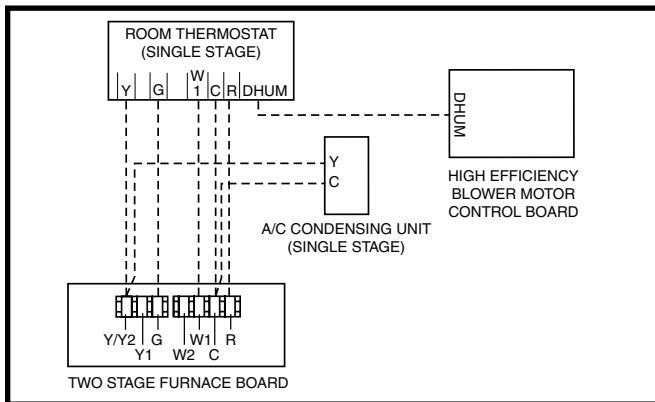
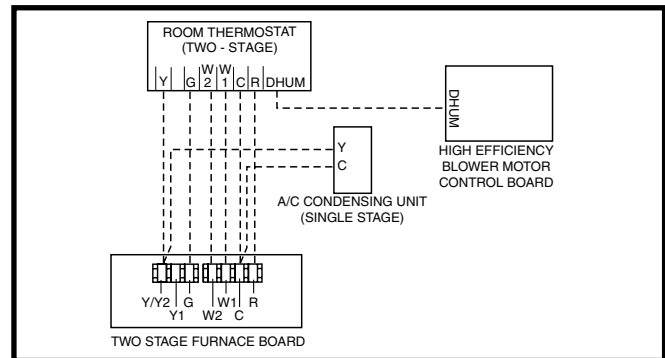
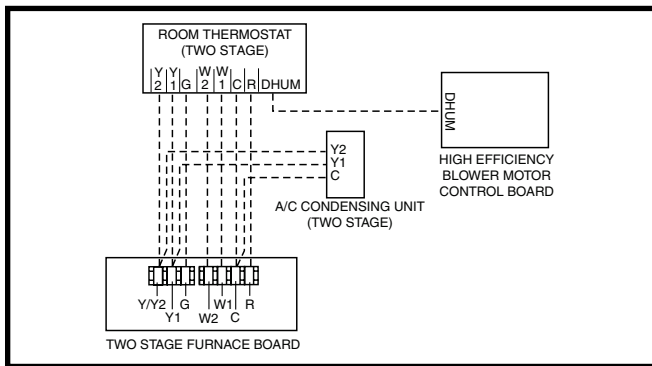

Figure 22. Wiring Configuration 1
Figure 23. Wiring Configuration 2
Figure 24. Wiring Configuration 3
- Connect the thermostat's **W** output to the furnace control boards **W1** terminal. This allows the furnace to always run in low output mode. See Figure 22.
This option uses the full two stage heating capability of the furnace with a single stage outdoor unit. See Figure 23.
This option uses the full two stage heating capability of the furnace with a two stage outdoor unit. See Figure 24.
The Autostaging feature makes it possible to use a single stage thermostat and still receive some of the benefits of 2-stage furnace operation. If Autostage is enabled, the furnace will drop to **LOW** fire after initially starting in **HIGH** fire. After a period of 10 minutes, the furnace will then stage up to **HIGH** fire, until the heating load is met. See Figure 22 and the Low Voltage Connection section on page 23.
- ✓ Verify that all needed thermostat wires are securely connected to the correct leads on the terminal strip of the circuit board. See Figure 22 (page 24), Figure 23 (page 24), & Figure 24 (page 25).
The operating sequences for the heating, cooling, and fan modes are described below. Refer to the field and furnace wiring diagrams: Figure 21 (page 24), Figure 22 (page 24), Figure 23 (page 24), Figure 24 (page 25) & Figure 32 (page 35), Figure 33 (page 36), Figure 34 (page 37), & Figure 35 (page 38).